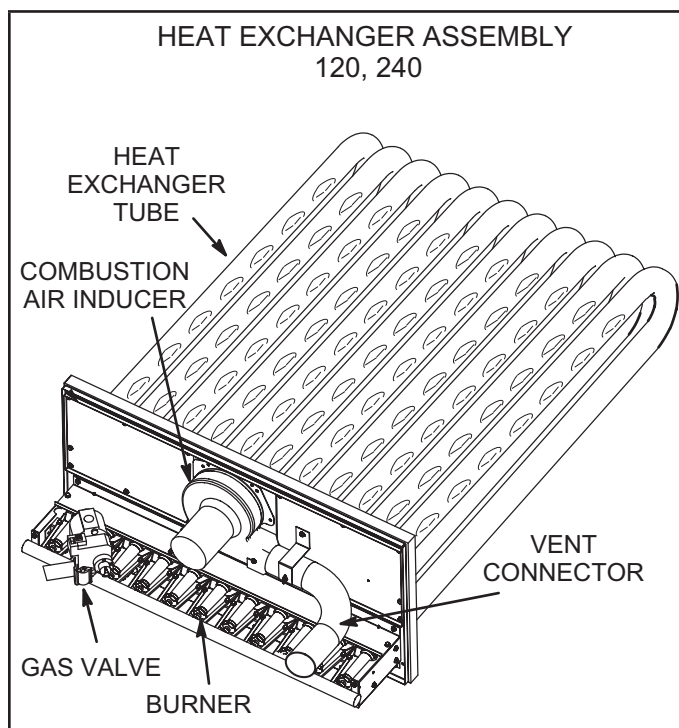

FIGURE 63
- 3 - Remove and retain screws securing combustion air inducer to flue box. Remove vent connector. See FIGURE 50 for 036 and 060 units and FIGURE 63 for 120, and 240 units.